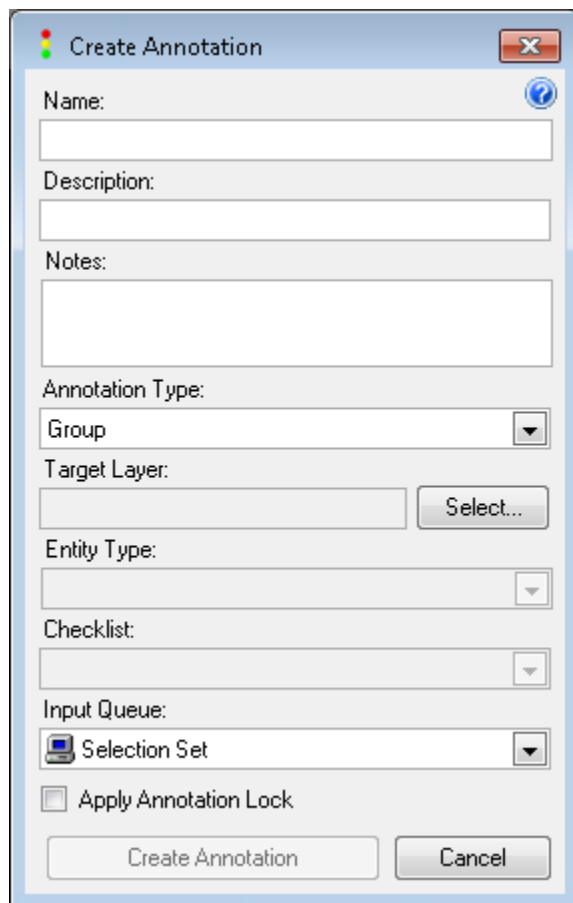

Figure 19-1 The Create Annotation dialog
- Press the **Create Annotation** tool on the annotation toolbar. You will be presented the dialog of Figure 19-1.